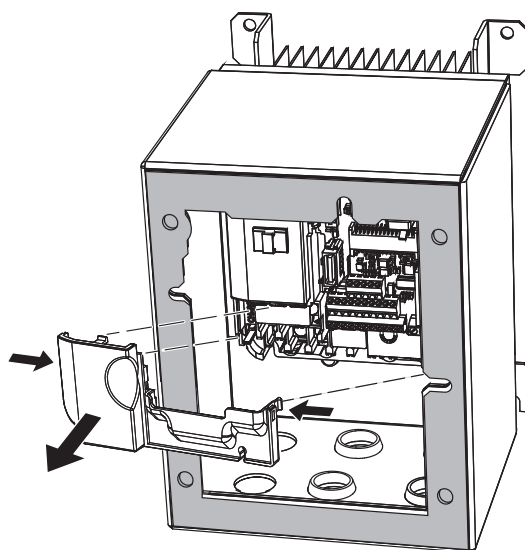

Figure 14 Remove IP66/UL Type 4X Lower Terminal Cover
11. For IP66/UL Type 4X enclosure models, remove the lower terminal cover from the drive, if provided. Apply pressure using fingers on the left and right tabs. Lift and pull the cover forward to release (see **Figure 14**).